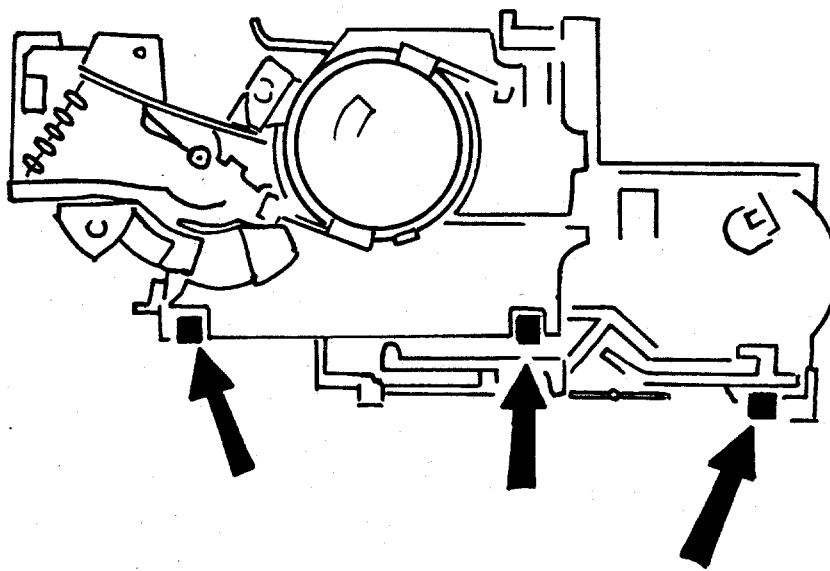

Fig. 20 Removing Lens Mounting Plate from Base Block
23. Remove Lens Mounting Plate by releasing the three tangs along the bottom edge, which fastens it to the Shutter Base Block (see Fig. 20).